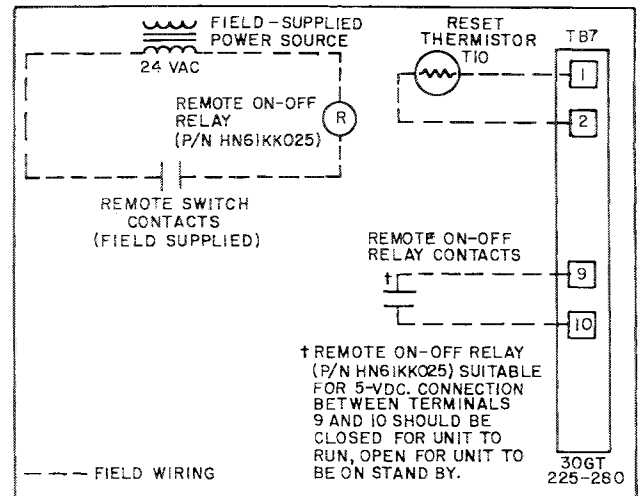

Fig. 15 - Remote On/Off Control
**REMOTE ON-OFF CONTROL** — If remote ON-OFF unit control is required, a field-supplied relay (part no. HN61KK025) must be installed in unit control box and wired as shown in Fig. 15. Remote switch contacts are field supplied.